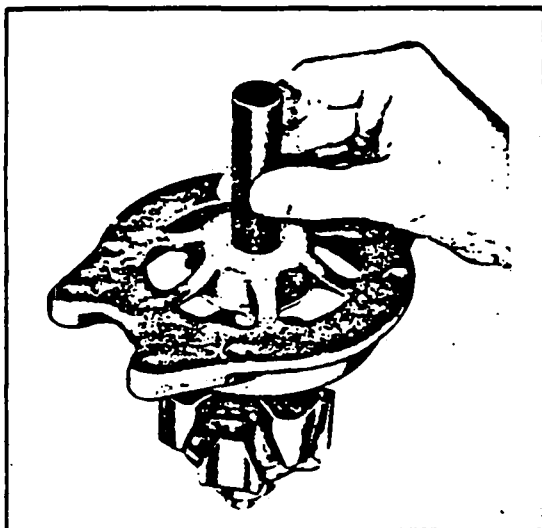

Figure 11-28. Installation of Bearing
a. Press the ball bearing into the drive end head using a flat block approximately two inch square so that the pressure is exerted on the outer race of the bearing. Install the retainer plate. With the snap ring and retainer cup in place on the rotor shaft, use a tool that fits over the shaft and against the inner bearing race, and press until the inner bearing race is against the snap ring retainer cup. (Refer to Figure 11-28.)